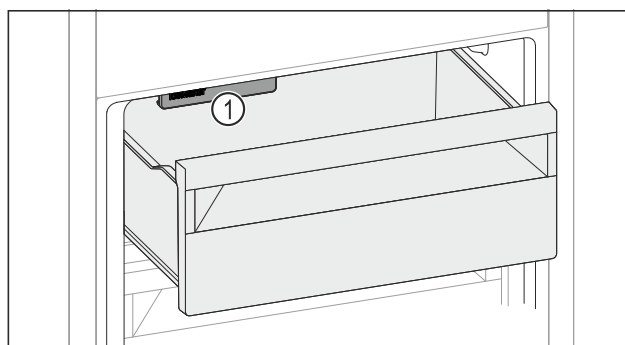

Fig. 136
► Watch out for the IceMaker *Fig. 136 (1)*.